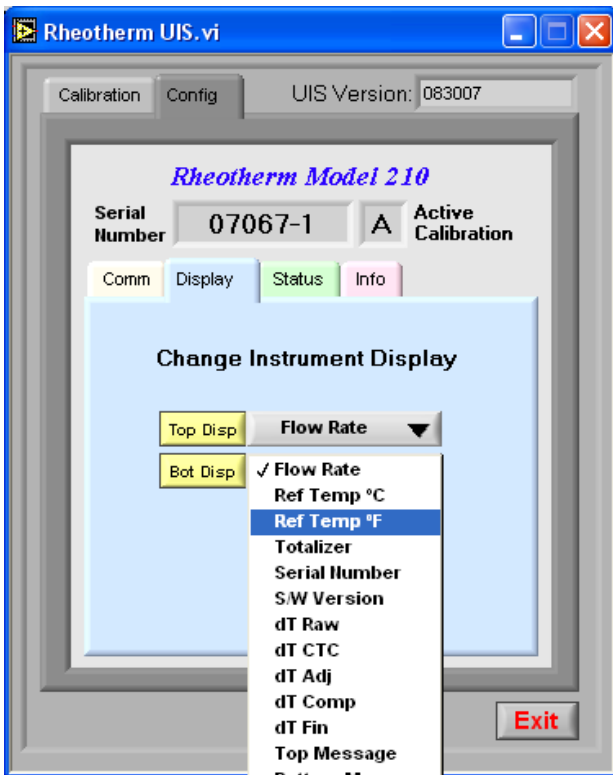

Figure 6 - Configuration Display Form
- i. Click on the [Config][Display] tab to reveal the display configuration form (Figure 6).